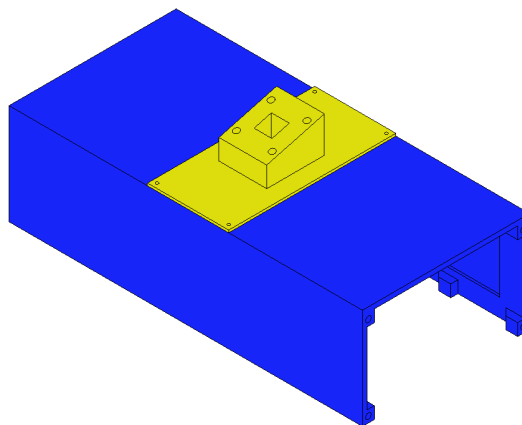

Figure 35: *Electronics case* and *touchscreen support* assembly.
5. Identify the bottom holes of the *electronics case*. These holes are intended for M3 inserts. Heat four (4) M3 using either a heat gun or a soldering iron. Place the heated inserts in their corresponding holes. Allow the inserts to cool down. Identify the four (4) holes in the lateral and opened side of the *electronics case*. These holes are intended for M3 inserts. Heat the M3 inserts and place them into the corresponding holes. Identify the four (4) holes in the angled face of the *touchscreen support*. These holes are intended for M3 inserts. Heat the M3 inserts and place them into the corresponding holes. Allow the inserts to cool down. Attach the *touchscreen support* to the *electronics case*. Use four (4) M3 screws with their corresponding nuts. The assembly is shown on figure 35.